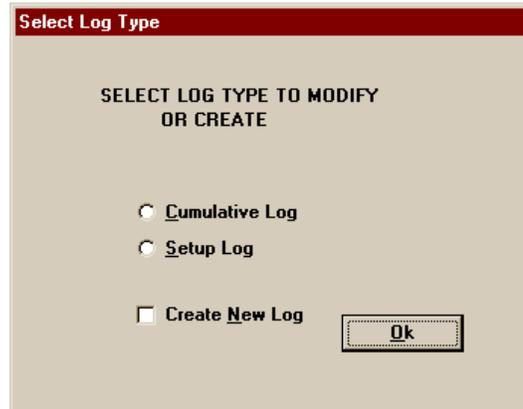

Figure 37. Select Log Type Screen
To create a new "Setup Data" file or "Cumulative Data" file containing default values (refer to Figure 37):
1. Select the log type (Cumulative or Setup) and DO NOT click the "Create New Log" option check box (refer to Figure 37).